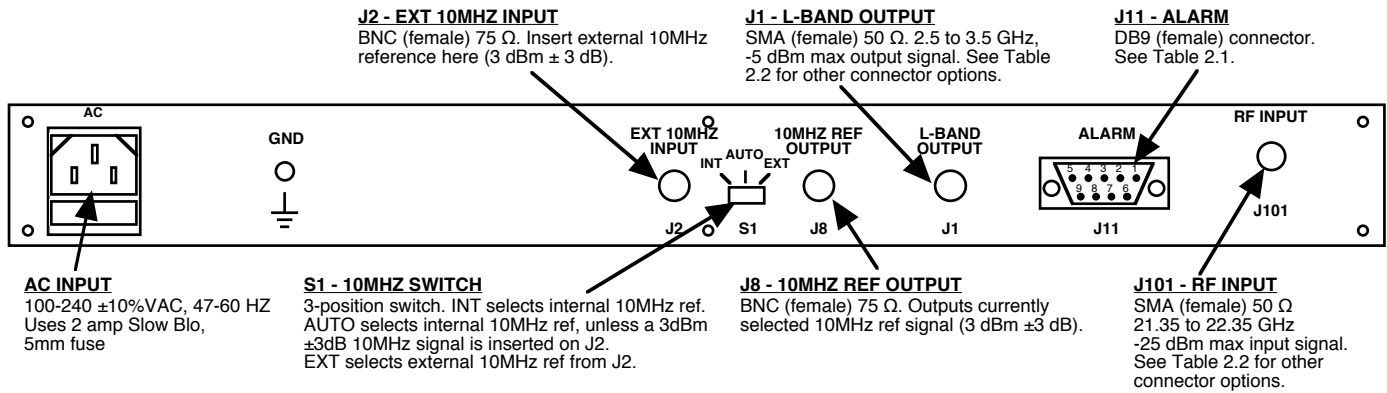

FIGURE 2.1 2116-222 Rear Panel I/O's
Figure 2.1 shows the input and output connectors on the rear panel.
1. Connect a -45 dBm to -25 dBm signal to RF INPUT, J101 (Figure 2.1).
5. Select either INT (for internal 10MHz ref), AUTO (for internal 10MHz ref UNLESS an external 10MHz, 3 dBm signal is connected to J2), or EXT (for external 10MHz, 3 dBm ref that is inserted at J2) on rear panel switch S1 (Figure 2.1).
7. Check that a 10MHz, 3 dBm \pm 3 dB signal is present at the 10MHZ REF OUTPUT (J8) (Figure 2.1).